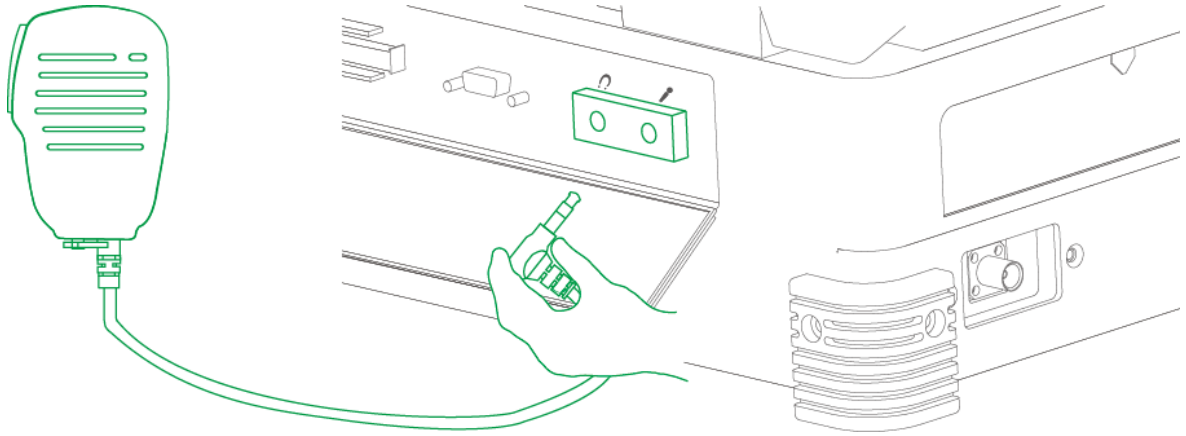

Figure 4-2
Step 1 Insert the external microphone connector into corresponding interface of ground control station, as shown in Figure 4-2.